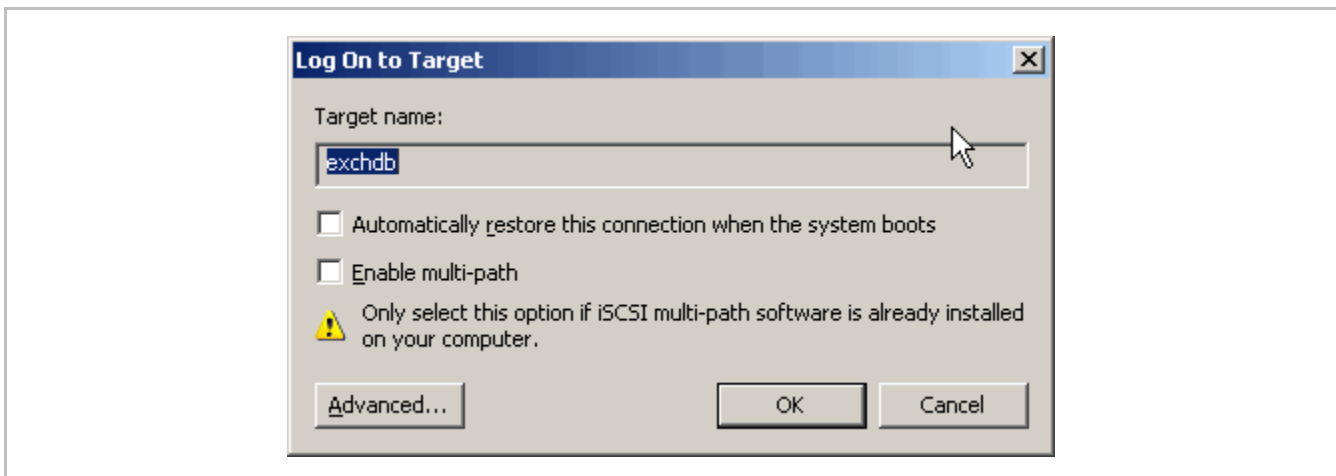

Figure 4. Configure Multi Sessions – Log On to Target
The Log On to Target Window opens (Figure 4).
4. Check **Enable multi-path** (Figure 4).
9. Check **Enable multi-path** (Figure 4).
12. Click OK (Figure 4).